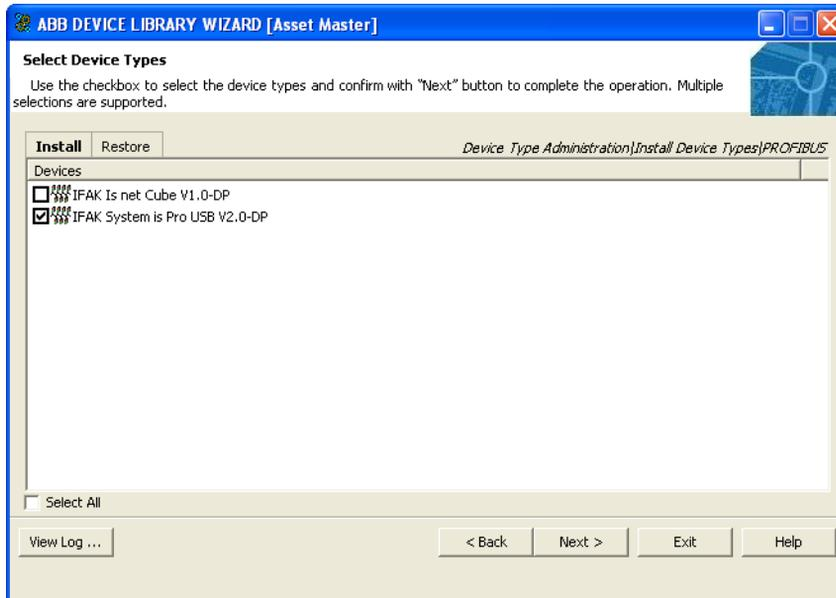

Figure 105. Select Device Types
13. In the resulting screen, similar to the one shown in Figure 105, select from the list of Device Object Types that are to be restored by checking the box against the corresponding device. Click **Next** to continue.